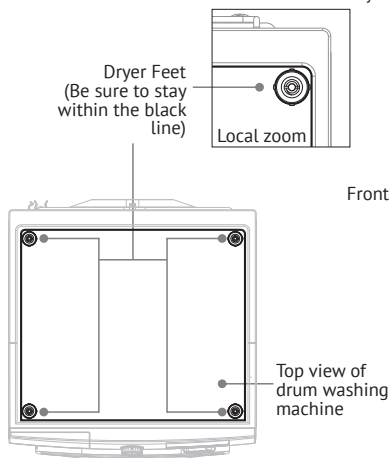

Figure 3: Schematic diagram of dryer foot position
d. The dryer and washer should be adjusted so that the front and sides of both are flush, while making sure that the feet of the dryer fall on the large flat surface of the washer's top flap (As shown in Figure 3), and avoiding the feet of the dryer resting on the side strips of the washer's top flap.